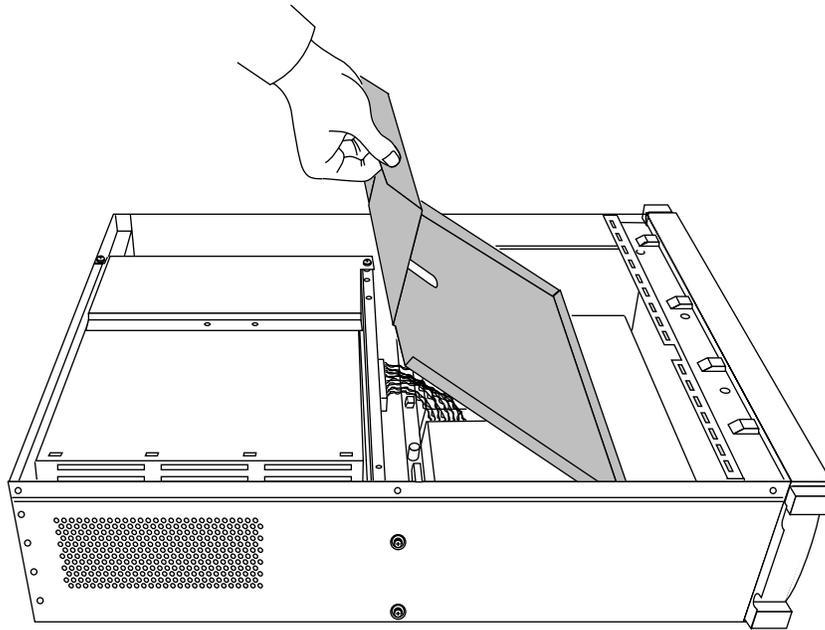

Figure 5-36 Removing the Power Supply Shroud
5. Remove the power supply shroud, as shown in Figure 5-36.